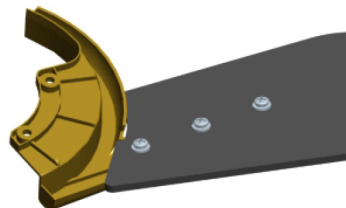

Fig. 6.2
6.2 Fig. 6.2 is the schematic diagram of the installed fan blade bracket. Repeat these steps for the remaining blades. Make sure all the screws are firmly tightened.